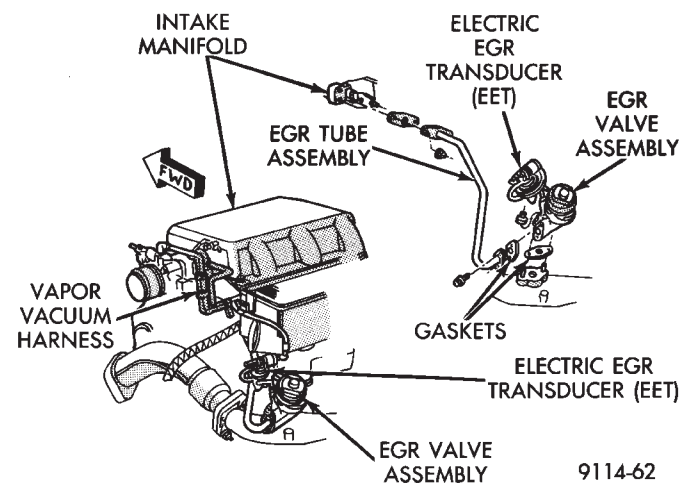
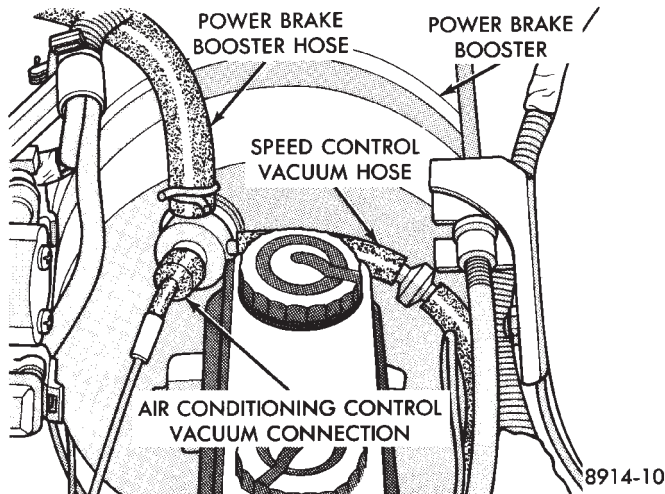

Fig. 12 EGR System Vacuum Hose Connections
Fig. 13 Power Brake Booster and Speed Control Vacuum Hose Connections (Without Anti-lock Brakes)
(19) If equipped, check EGR system vacuum hose connections (Fig. 12).
(20) If equipped, check EGR tube to intake plenum connections (Fig. 12).
(21) Inspect the electronic EGR transducer solenoid electrical connector.
(22) Ensure the vacuum connections at the electronic EGR transducer is secure and not leaking.
(23) Check Power Brake Booster and Speed Connections (Figs. 13 and 14).